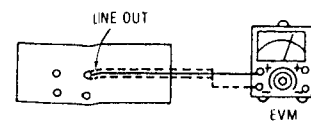

Fig. 5
Procedure 1→5	<ul style="list-style-type: none"> • Remove the screw (⑥) (See the Fig. 5). • Remove the 5 screws (①~⑤). • Push the eject button.